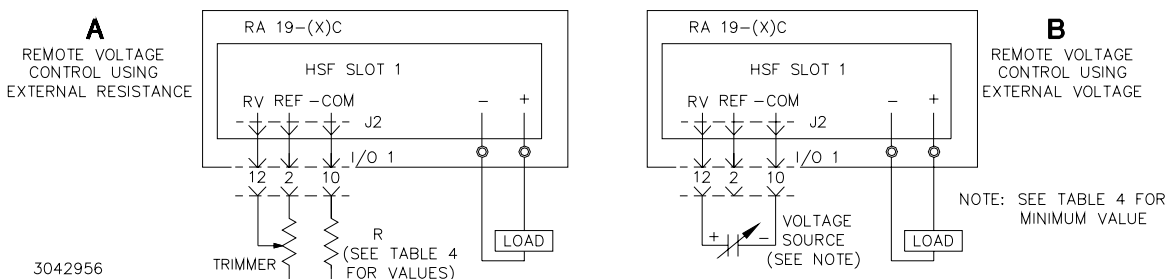

FIGURE 7. CONNECTIONS FOR REMOTE VOLTAGE CONTROL
adapter I/O connector pin 12 (RV, Remote Voltage) and pin 10 (-COM, Common) as shown in Figure 7. At the rack adapter I/O connector use a shielded wire 6.6 feet (2M) maximum in length, for connection of REF (pin 2), RV (pin 12), and -COM (pin 10) to the trimmer control or external voltage source.
RESISTANCE: Connect the external trimmer as shown in Figure 7A. Suggested value for the trimmer control is 5K ohms. Referring to Figure 7 (A), Resistor R is used to obtain minimum output voltage required to ensure proper operation of the alarm relay and LED indicator; see Table 4 for values.